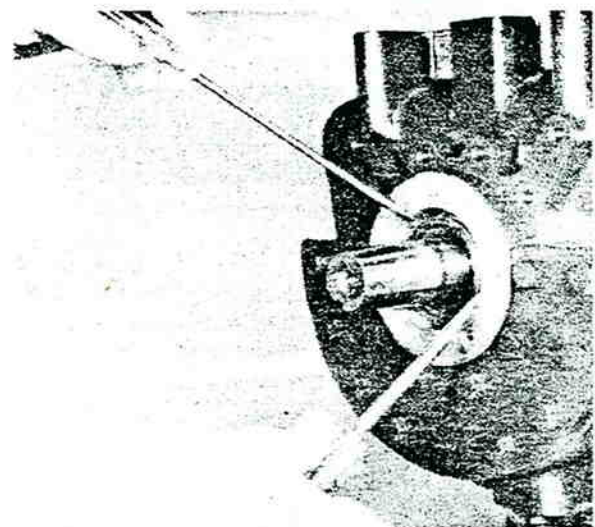

Figure 16-34: Carefully Pry Out Shaft Seal
16. Tap seal end of crankshaft to loosen seal grip on shaft. Using two long screwdrivers, pry out the shaft seal (figure 16-34).